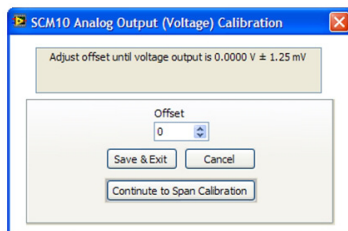

Figure 6.10
2. Click on the “Analog Output Voltage” button of the GUI Calibration window. This opens up an instruction window. Click “OK” to continue to the next screen, which is similar to Figure 6.10.